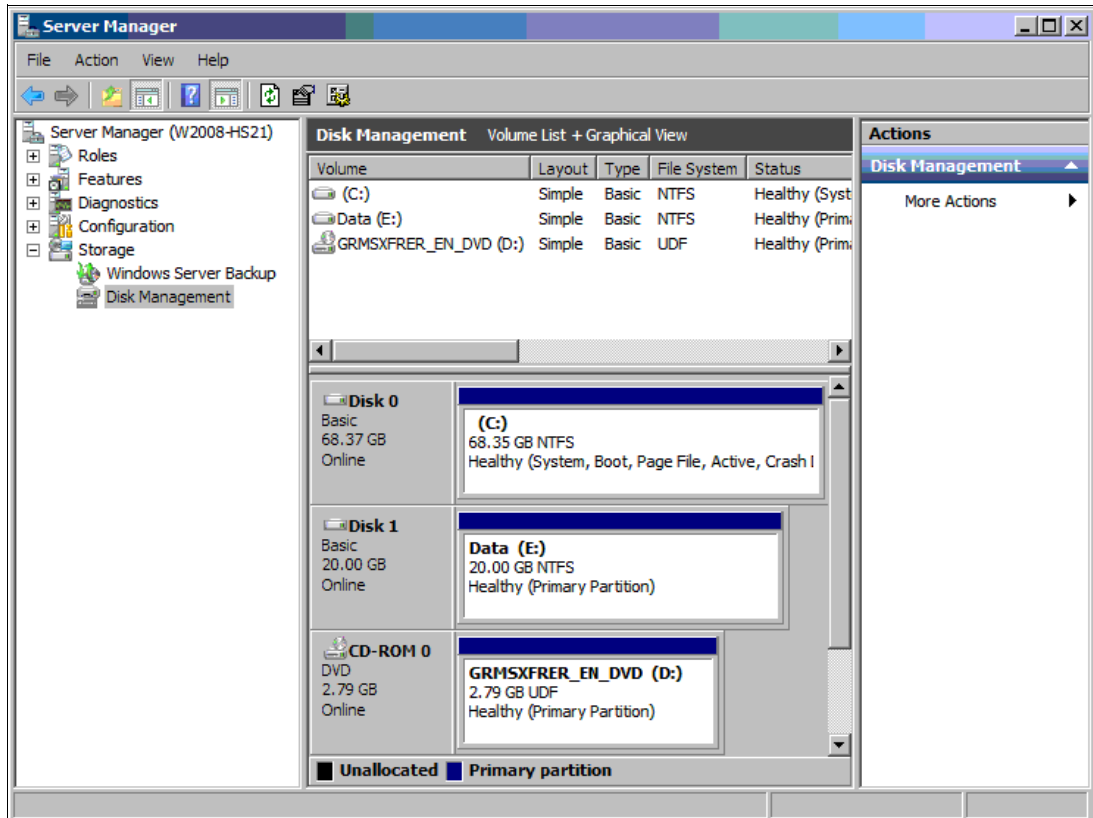

Figure 18-18 New partition on the logical drive
3. Follow the process under guidance of the wizard to define the partition size, drive letter, file system, and volume label. The partition will be created and formatted. The Disk Management applet now displays the new partition (allocated drive E) that is ready to be used (see Figure 18-18 on page 553).